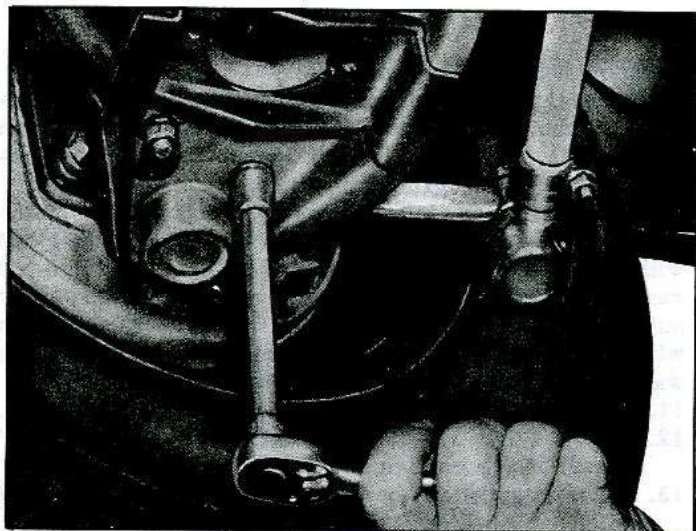

Fig. 3-13—Removing Strut Rod Nut
2. Remove the nut, washer and grommet from rear end of strut rod (fig. 3-13).